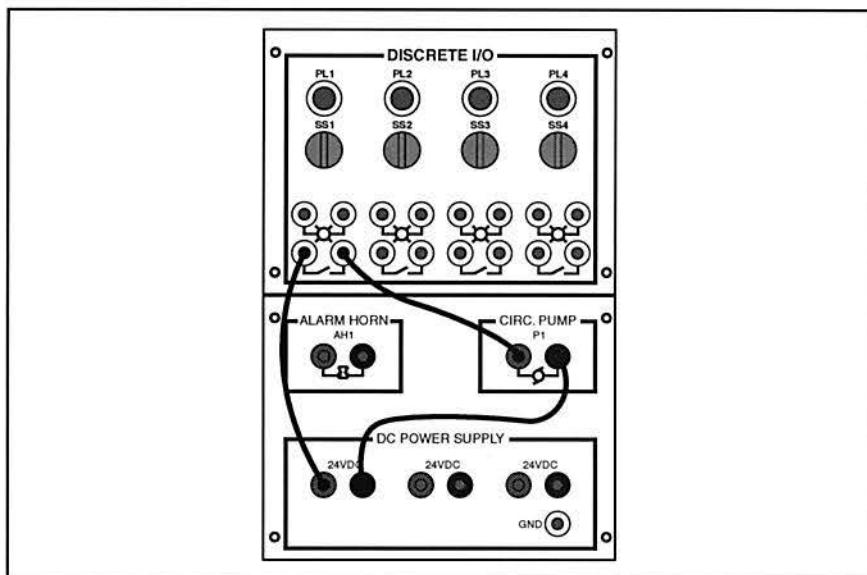

Figure 50. Circuit to Control the Circulation Pump
- C. Connect the circuit shown in figure 50 to control the circulation pump.